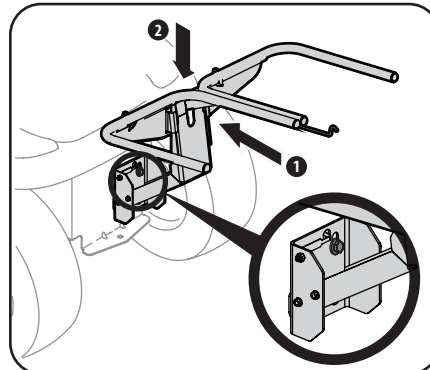

Figure 4-3
1. Slide the Upright Support Assembly (819-010511) onto the shoulder screws. Once engaged, push down on the assembly to secure it in place as shown in Figure 4-3.